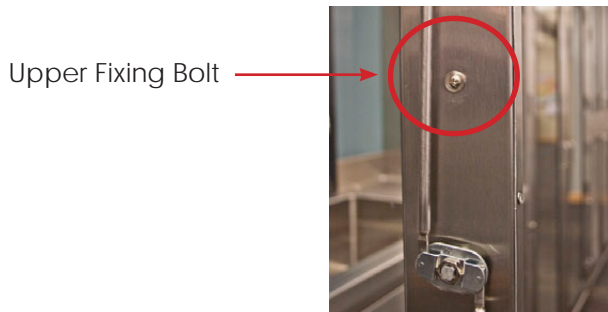

Fig. 36: Upper Fixing Bolt
Fit new Batteries by opening the door and removing the Upper Fixing Bolt. Swing the Lock down over the edge of the door. Refit the Lock when done (Figs. 36 and 37).
- 4) Fit new batteries by removing the upper fixing bolt and swinging the lock down over the edge of the door. Refit the lock when done (Figs. 36 and 37).
- 1) Remove the upper fixing bolt and swing the lock over the edge of the door to reveal the battery compartment (Figs. 36 and 37).